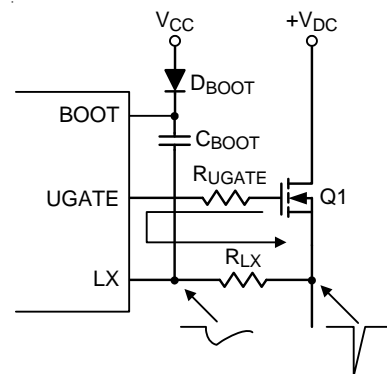

Figure 6. LX Pin Resistor
- ▶ In Figure 6, the LX pin voltage drop can be improved by adding R_{LX} ($R_{LX} = 1$ to 10 Ω), because the dv/dt is affected by ($R_{LX} + R_{UGATE}$).